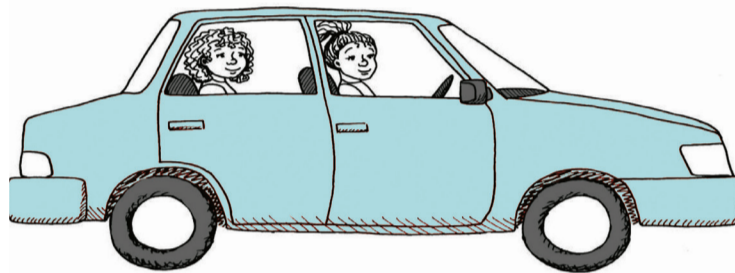

Figure 5
1. Copy Figure 5 and use dashed lines to show the bodies of the two people inside the car.